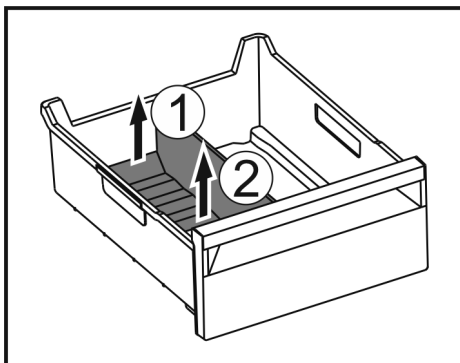

Fig. 190
- ▶ Lift the rear part of the ice compartment divider. Fig. 190 (1)
- ▶ Remove the ice compartment divider upwards. Fig. 190 (2)